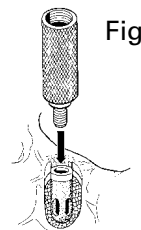

Fig. 1
4. A special gold plated Abutment Driver (contained in Locator Core Tool, 636066) is designed to engage the inside diameter of the Locator Abutment and thread it into the implant. (Fig. 1)